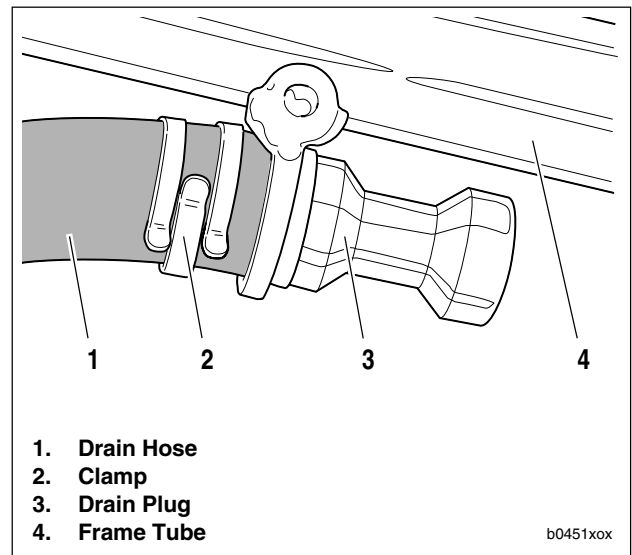

Figure 2-64. Oil Tank Drain, Typical
8. Remove cap from oil tank. See Figure 2-64. Drain oil tank by removing clamp (2) from drain hose (1). Pull hose from drain plug (3).